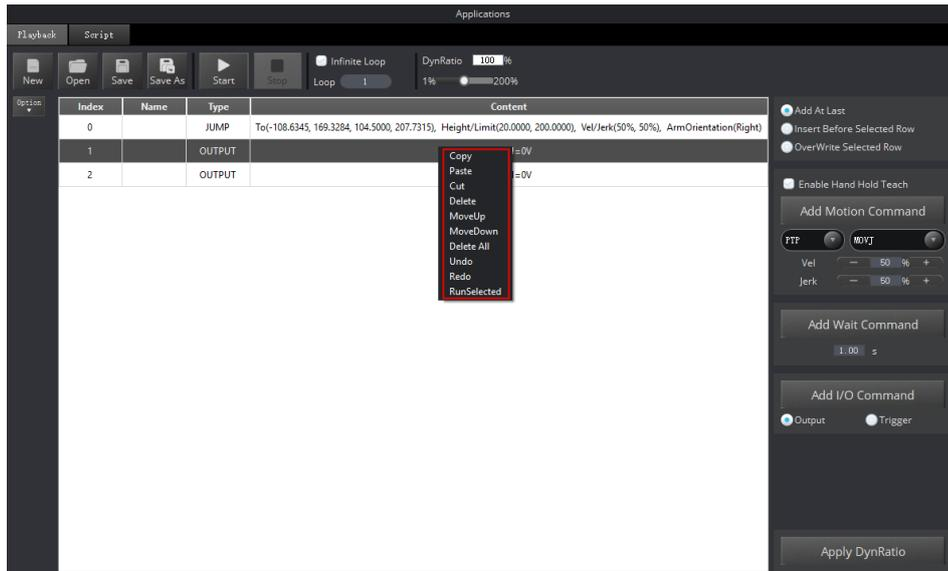

Figure 6.11 Right click options of the saved points list
- Select a saved point and right-click on the line to copy, delete or other operations, as shown in Figure 6.11.